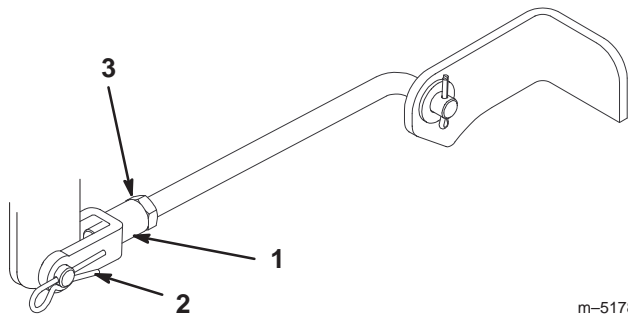

Figure 43
7. To adjust the front-to-rear blade slope, remove the hairpin cotter from the front trunion yokes and loosen the jam nuts (Fig. 43).
8. Rotate the yokes on the rods to change the adjustment (Fig. 43). To raise the front of the mower, tighten the yokes (shorten the rods). To lower the front of the mower, loosen the yokes (lengthen the rods).